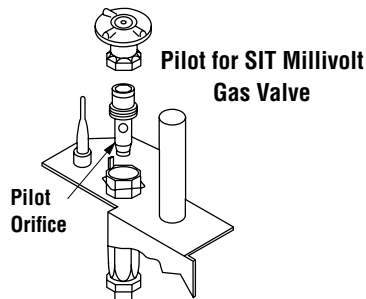

Figure 62
Step 6. See **Figure 62** and remove the pilot hood assembly to access the hexed pilot orifice. Remove and replace the orifice with the one provided with the kit.